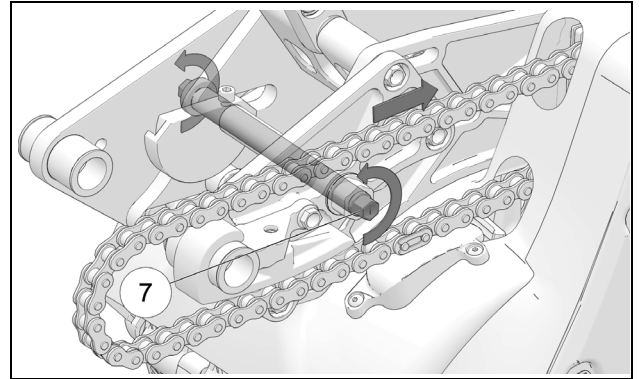

Figure 40
- Rotate eccentric bolt (7) to adjust chain tension as required. Use a 12-mm socket. Figure 40.